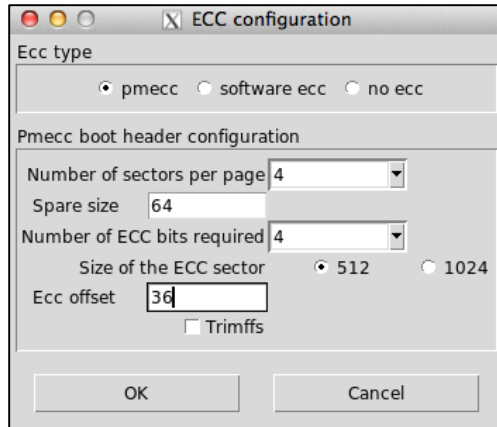

Figure 5: ECC configuration window
- b. Ensure that Ecc offset is set to 36 (Figure 5).